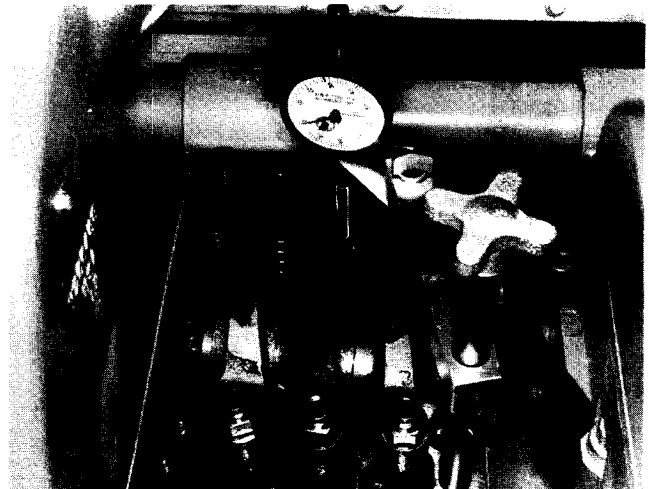

Fig. 2-62, (K21920). Dial indicator in place — extension in contact with plunger
2. Set up 3375007 Indicator Support on rocker lever housing, of cylinder selected, with indicator extension 3375005 on injector plunger top. Fig. 2-62.